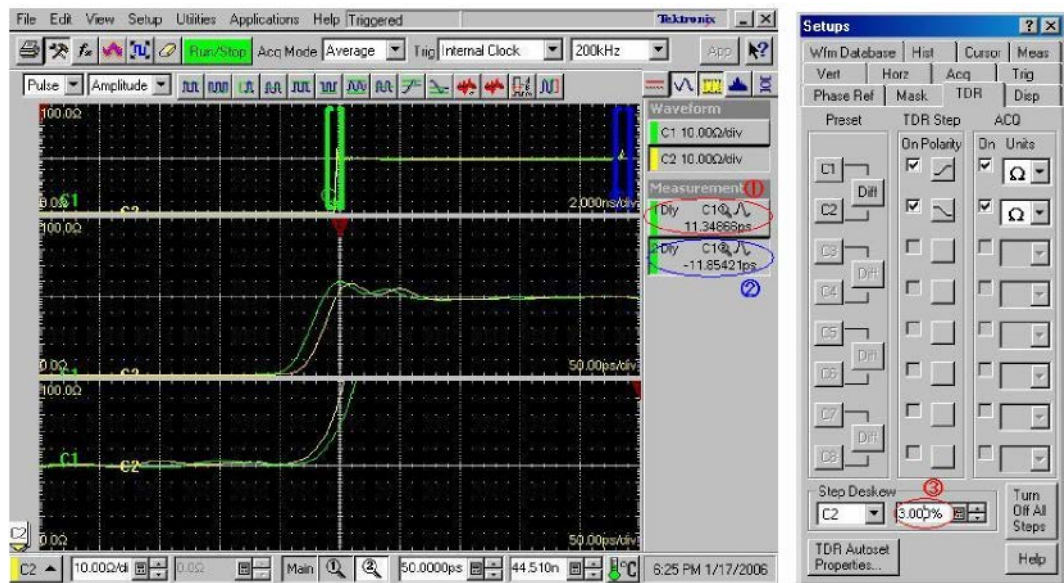
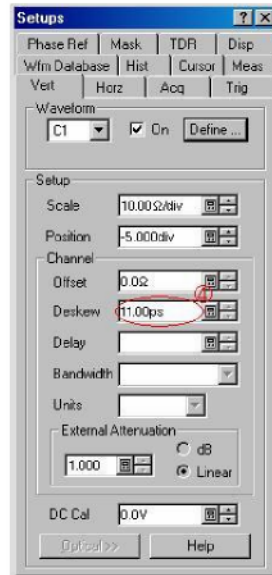

Figure 4: Adjusting the step skew
Figure 5: Changing the Deskew value
- b. Adjust the readings of ① and ② in Figure 4 are about the same value by changing the **Step Des skew** value (see ③ in Figure 4).
- b. Adjust the deskew so that the reading of ② in Figure 4 on page 6 has the minimum value by changing the Deskew value (see ④ in Figure 5).